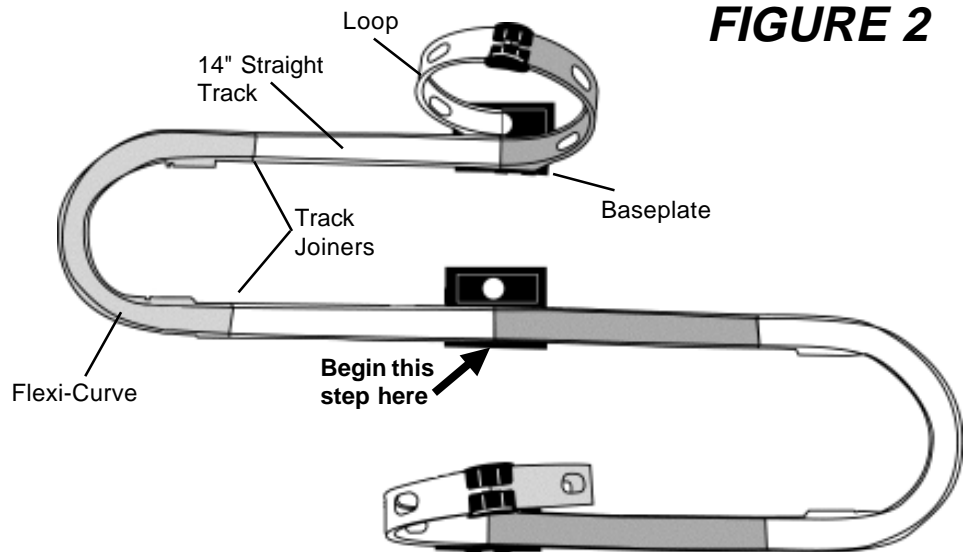

FIGURE 2
- Connect (2) **14" Straight Tracks**, (1) **Flexi-Curve**, (1) **Baseplate** and (1) **Loop** to the pieces you have just assembled. Begin adding the pieces where indicated in **FIGURE 2** and work your way around.